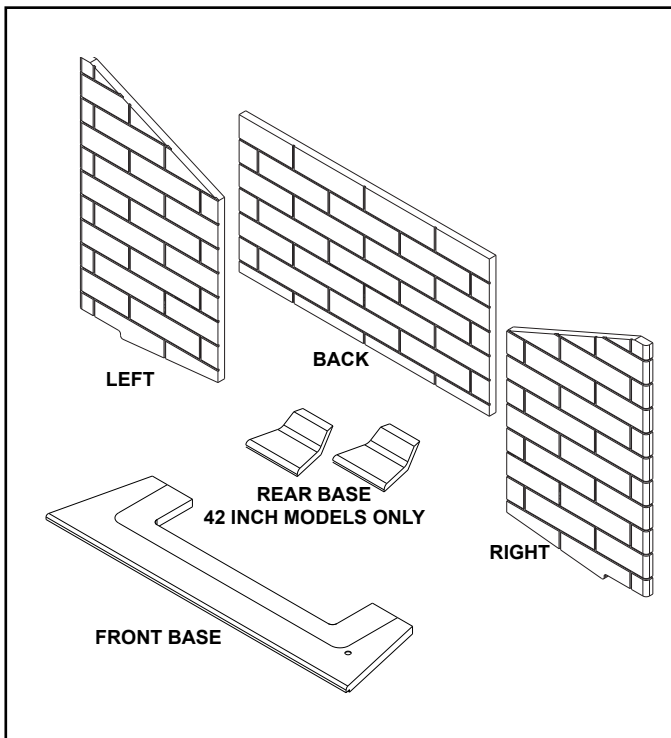

Figure 1 Refractory Kit Components
**KIT COMPONENTS (Shown in Figure 1)**
- (1) Left Refractory